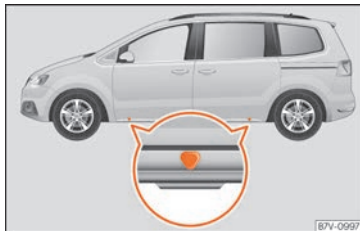
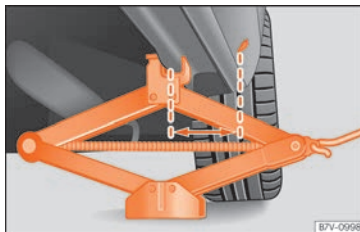

Fig. 71 Jack position points.
Fig. 72 Jack mounted on the left rear part of the vehicle
The jack may be applied only at the jacking points shown (marks on chassis) » » Fig. 71. The mark indicates the jacking points **below** the vehicle. The jacking points are on the ribs **behind** the front edges » » Fig. 72. Always the relevant jacking point for the wheel to be changed » » ⚠.
6. Look below the vehicle for the jacking point »» Fig. 71 closest to the tyre which has to be changed.
8. Ensure that the foot of the jack is firmly on the ground and that it is placed immediately below the lifting point on the vehicle »» Fig. 72.
the vertical reinforcement beneath the vehicle »» Fig. 72.
- Only fit the jack at the prescribed jacking points. The claw of the jack should grip the reinforcement nerve on the underbody »» Fig. 72.